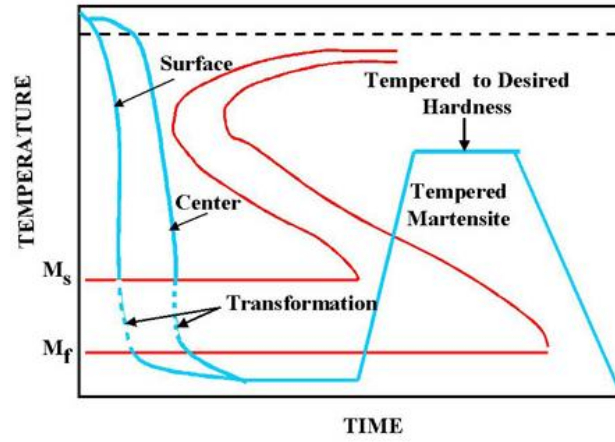

Figure 2: Heat treatment cycle for conventional hardening process
*Figure 2* depicts the conventional hardening process which involves quenching and tempering. During quenching outer surface is cooled quicker than the center. Thinner parts are cooled faster than the parts with greater cross-sectional areas. In other words, the transformation of the austenite is proceeding at different rates. Hence there is a limit to the overall size of the part in this hardening process.